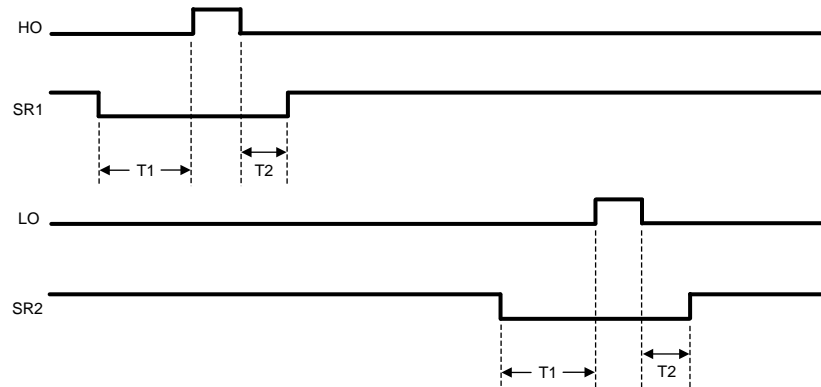

Figure 15. HO, LO, SR1 and SR2 Timing Diagram
Synchronous rectification (SR) of the transformer secondary provides higher efficiency, especially for low output voltage converters. The reduction of rectifier forward voltage drop (0.5V - 1.5V) to 10mV - 200mV  $V_{DS}$  voltage for a MOSFET significantly reduces rectification losses. In a typical application, the transformer secondary winding is center tapped, with the output power inductor in series with the center tap. The SR MOSFETs provide the ground path for the energized secondary winding and the inductor current. Figure 15 shows that the SR2 MOSFET is conducting while HO enables power transfer from the primary. The SR1 MOSFET must be disabled during this period since the secondary winding connected to the SR1 MOSFET drain is twice the voltage of the center tap. At the conclusion of the HO pulse, the inductor current continues to flow through the SR1 MOSFET body diode. Since the body diode causes more loss than the SR MOSFET, efficiency can be improved by minimizing the T2 period while maintaining sufficient timing margin over all conditions (component tolerances, etc.) to prevent shoot-through current. When LO enables power transfer from the primary, the SR1 MOSFET is enabled and the SR2 MOSFET is off.
The timing of SR1 and SR2 with respect to HO and LO is shown in Figure 15. SR1 is configured out of phase with HO and SR2 is configured out of phase with LO. The deadtime between transitions is programmable by a resistor connected from the DLY pin to the AGND pin. Typically,  $R_{DLY}$  is set in the range of 10kΩ to 100kΩ. The deadtime periods can be calculated using the following formulae:
The  $R_{DLY}$  resistor programs the delays between the SR1 and SR2 signals and the HO and LO driver outputs. Figure 15 shows the relationship between these outputs. The DLY pin is nominally set at 2.5V and the current is sensed through  $R_{DLY}$  to ground. This current is used to adjust the amount of deadtime before the HO and LO pulse (T1) and after the HO and LO pulse (T2). Typically  $R_{DLY}$  is in the range of 10k $\Omega$  to 100k $\Omega$ . The deadtime periods can be calculated using the following formulae: